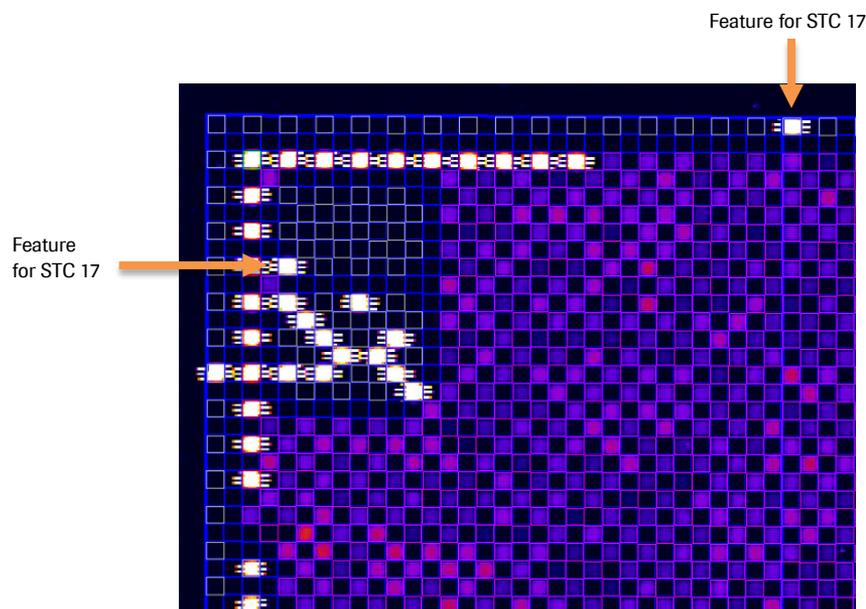

Figure 15: Example of an Array Hybridized with Sample Containing STC 17
6. Locate the repeating set of 20 features along the perimeter of the array. Figure 15 below shows an example of an array hybridized with a sample containing STC 17.
The Sample Tracking Control report is based on signal intensities of features in the two 4 x 5 blocks with Sample Tracking Control probes (Figure 15). Using this report and sample records from your experiment, you can confirm the intended sample was hybridized to the intended array.